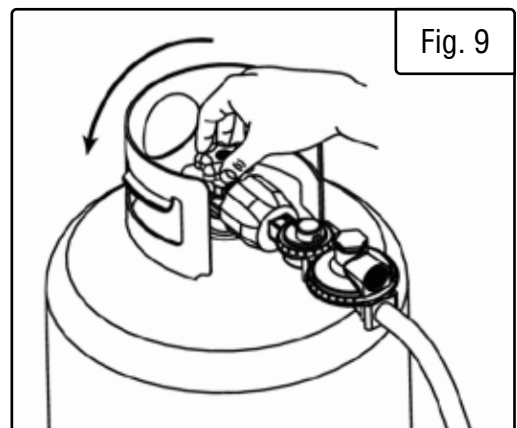

Fig. 9
4. Turn the LPG tank valve ON (Fig. 9) and check for leaks by spraying soapy water to check connections. If bubbles appear, become larger in size, or increase in number, a leak exists. This **MUST** be corrected before using generator. Contact WEN customer service at **1-800-232-1195**, M-F 8-5 CST, or email [techsupport@wenproducts.com](mailto:techsupport@wenproducts.com) for assistance.